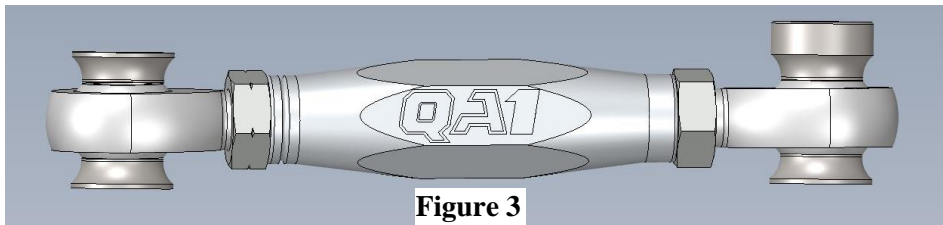

Figure 3
2. Assemble the end links using the male (#1) and female (#6) rod ends with jam nuts. Thread the right/left hand threaded jam nuts onto the right/left threaded rod ends fully into the adjuster sleeve (#4). Apply a small amount of anti-seize on the threads before assembling. **(Figure 3)**